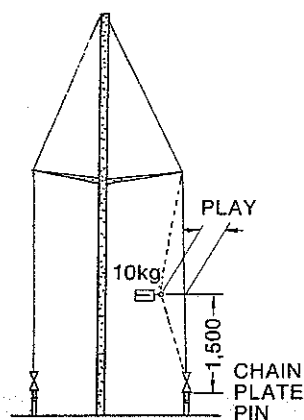

Fig. 14
- (1) The Upper Shroud: Set up the upper shroud to have 45 mm / 1-3/4 in of play (see Fig. 14).